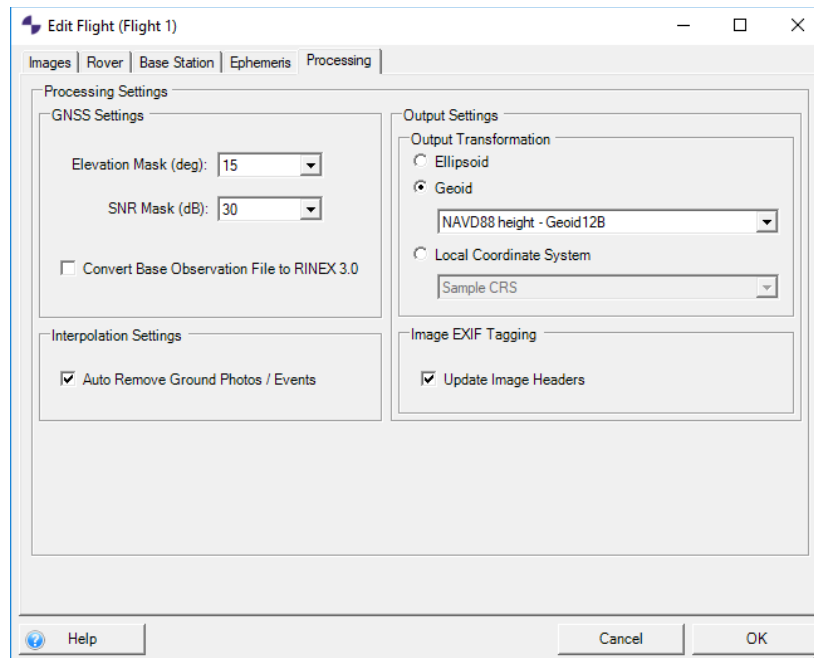

Figure 33 - Update Image Headers
8. Next click the Processing tab. Check the box next to Geoid if you wish to process relative to a Geoid. The drop-down menu allows you to select a Geoid model (Figure 33). Select Local Coordinate system if you wish to convert the image positions to a user-defined local coordinate system. If Ellipsoid is checked, the data will be processed using ellipsoid heights (or the height entered as the base coordinate). Using a Geoid allows the user to convert the ellipsoid heights in the images.txt file and the image header GPS coordinates to Geoid heights using the selected Geoid mathematical model in the dropdown box. Typically, GPS units are in WGS84 Ellipsoid, so this box is unchecked by default.
9. The elevation mask can be changed by selecting the drop-down menu (Figure 33). Elevation mask is used to filter satellites low on the horizon, which can cause interference and reduced accuracy. Usually, it is best to start with the elevation mask set at 15, and then raise or lower it if necessary. Getting all Q1 events during the Event Diagnostics phase is the correct result. This means that there is fixed (2cm or less) accuracy. If there are Q2 or Q5 events, then it may be necessary to check for missing or incorrect files, or adjust the elevation mask and reprocess.
10. *Update Image Headers* (Figure 33), if checked, will write the image positions to the image files (EXIF data). A copy of the original photos will be made and placed in a separate folder named *Originals*. If the box is unchecked, only a text file will be created with the image positions.
11. Check *Auto Remove Ground Photos/ Events* if you want ASPSuite to automatically remove ground photos and events (Figure 33). If not removed automatically, ground photos and events will need to be removed manually using the event repair tool. **Note:** Any photos eliminated during the *Auto Remove Ground Photos/Events* process will be moved to the *Originals* folder.